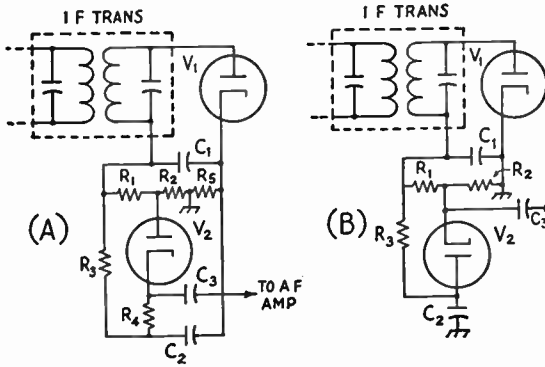

Fig. 5-21—Self-adjusting series (A) and shunt (B) noise limiters. The functions of V_1 and V_2 can be combined in one tube like the 6H6 or 6AL5.
Second-detector noise-limiting circuits that automatically adjust themselves to the received carrier level are shown in Fig. 5-21. In either circuit, V_1 is the usual diode second detector, R_1R_2 is the diode load resistor, and C_1 is an r.f. bypass. A negative voltage proportional to the carrier level is developed across C_2 , and this voltage cannot change rapidly because R_3 and C_2 are both large. In the circuit at A, diode V_2 acts as a conductor for the audio signal up to the point where its anode is negative with respect to the cathode. Noise peaks that exceed the maximum carrier-modulation level will drive the anode negative instantaneously, and during this time the diode does not conduct. The long time constant of C_2R_3 prevents any rapid change of the reference voltage. In the circuit at B, the diode V_2 is inactive until its cathode voltage exceeds its anode voltage. This condition will obtain under noise peaks and when it does, the diode V_2 short-circuits the signal and no voltage is passed on to the audio amplifier. Diode rectifiers such as the 6H6 and 6AL5 can be used for these types of noise limiters. Neither circuit is useful for c.w. or s.s.b. reception, but they are both quite effective for a.m. phone work. The series circuit (A) is slightly better than the shunt circuit.